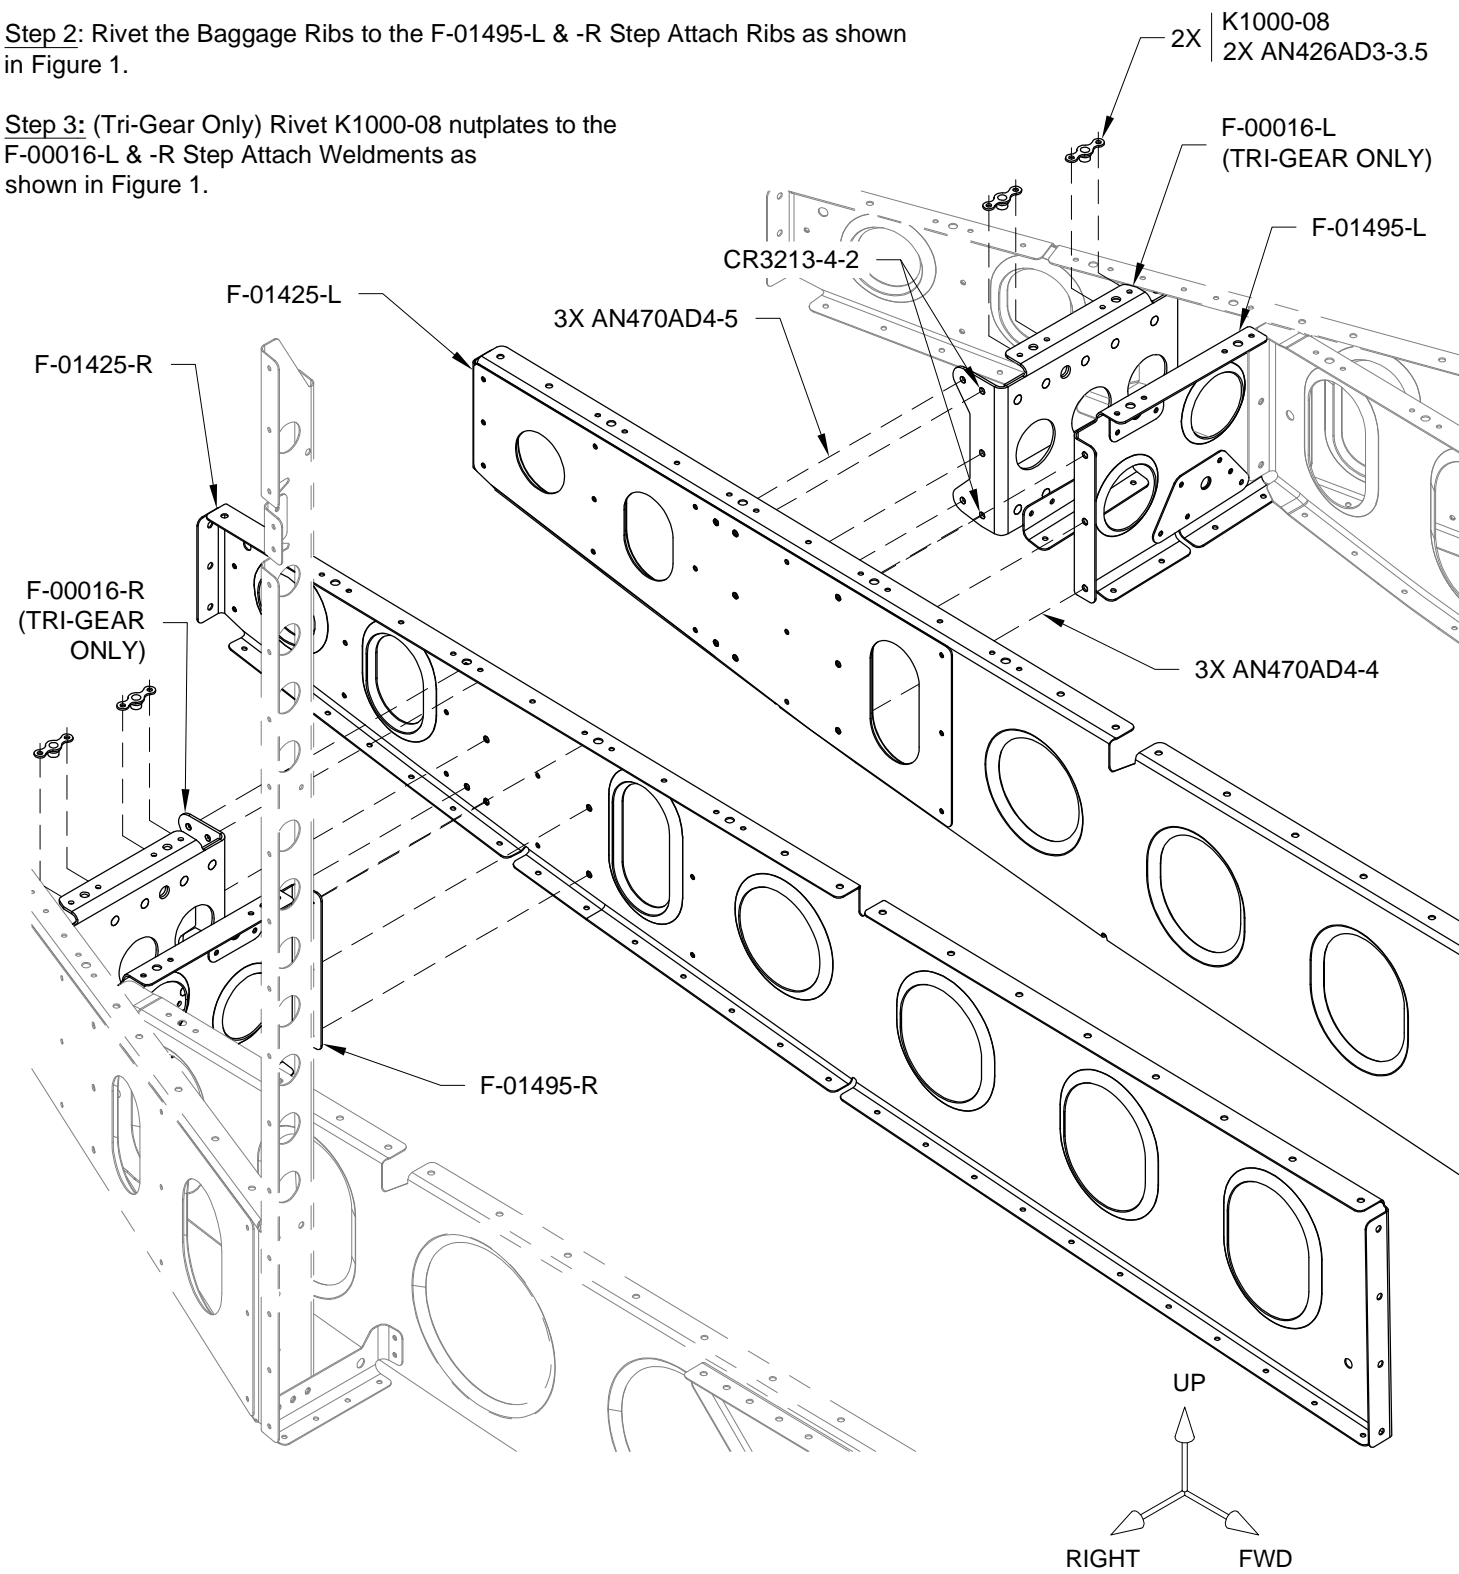

FIGURE 1: STEP ATTACH ASSEMBLIES
Step 1: (Tri-Gear Only) Rivet the F-01425-L & -R Baggage Ribs to the F-00016-L & -R Step Attach Weldments as shown in Figure 1.
Step 2: Rivet the Baggage Ribs to the F-01495-L & -R Step Attach Ribs as shown in Figure 1.
Step 3: (Tri-Gear Only) Rivet K1000-08 nutplates to the F-00016-L & -R Step Attach Weldments as shown in Figure 1.